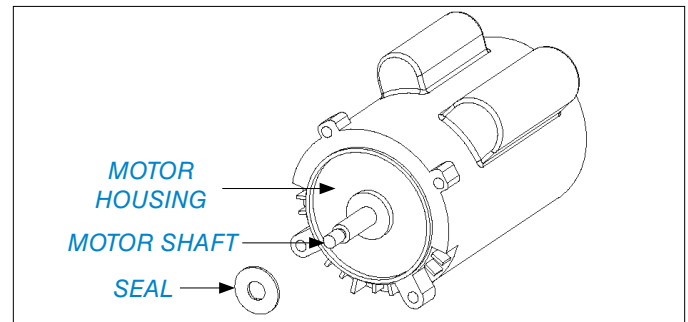

FIGURE 13. APPLY LUBRICATING OIL TO MOTOR SHAFT, SEAL & PUMP HOUSING
1. Apply lubricating oil to the motor shaft, seal and motor housing (*FIGURE 13*).